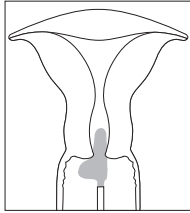

Fig. 1
3. Holding the FLOQSwabs[®] from the shaft, insert the swab tip (the long section of the L) inside the cervical canal, leaving outside the wider part of the swab (the short section of the L). See Fig. 1